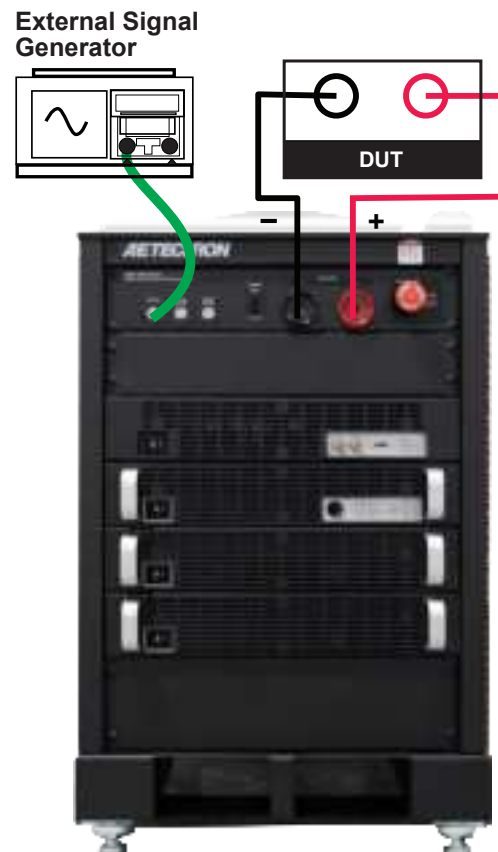

Figure 4.6 – Connections for External Signal Source Use
connector on your external signal source to the DSR system's BNC connector labeled Aux Input. See **Figure 4.6**.
3. **Connect the Outputs:** Using the supplied pin-plug connectors and wiring appropriate for your application, connect from the DSR 100's positive and negative test supply connectors to the device under test. See **Figure 4.6**.